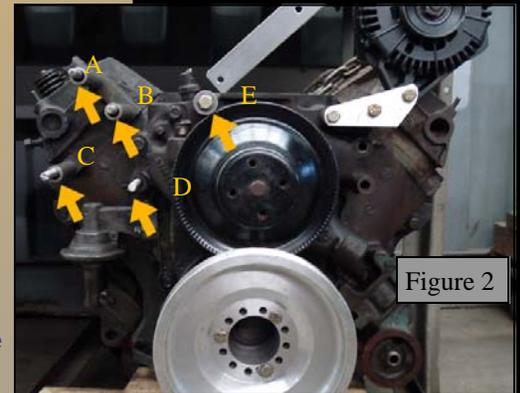

Figure 2
2. Remove all threaded rods from main bracket and install in block/head as shown in Figure 2. For tall deck applications, the 3, 7" long rods go in positions A, B, and C; the 5" long rod goes in position D; and the 3/8-16 x 1.5" bolt goes in position E. On a short deck application, positions A, B, and C slide over to the next hole.